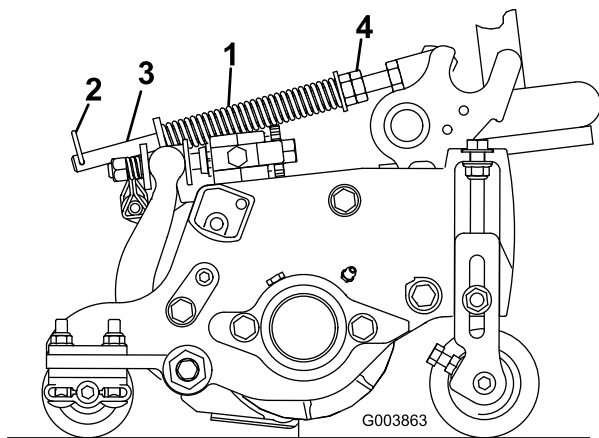

Figure 15
The turf compensation spring (Figure 15) transfers weight from the front to the rear roller. This helps to reduce a wave pattern in the turf, also known as marcelling or bobbing.
1. Make sure that the hairpin cotter is installed in the rear hole in the spring rod (Figure 15).
2. Tighten the hex nuts on the front end of the spring rod until the compressed length of the spring is 12.7 cm (5 inches) on Reelmaster 5410, 5 inch cutting units or 15.9 cm (6.25 inches) on Reelmaster 5510, 7 inch cutting units (Figure 15).